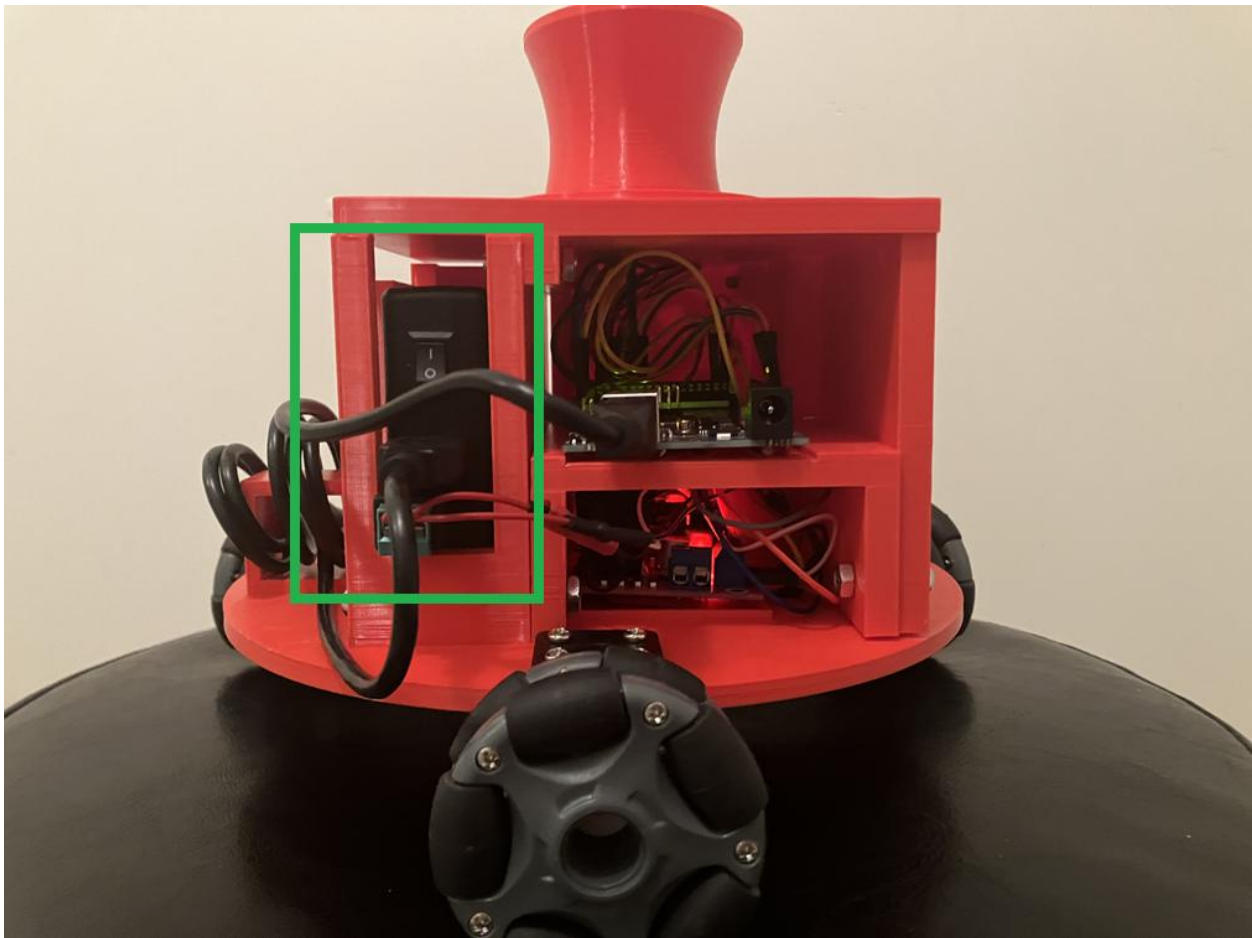

Figure 1: Power Bank Input Locations
1. Plug in Robot’s USB and Barrel Jack power cables and turn on the power bank (Refer to Figure 1). The Robot’s MCU (Arduino Mega 2560 Rev3 on second layer) should be preloaded with robot_main.ino sketch.